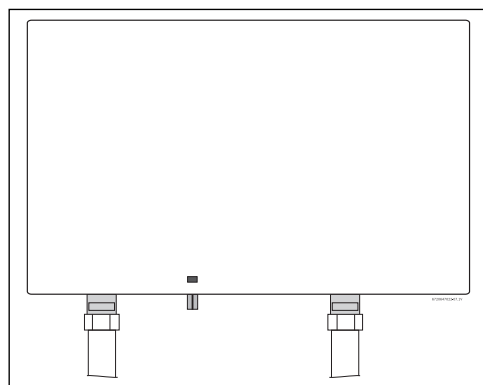

Fig. 5 Vertical mounting position
► The heater must only be installed in the orientation shown in Fig. 5 i.e., mounted in a vertical position with the water fittings located at the bottom of the heater. **Under no circumstances should the heater be mounted differently.**